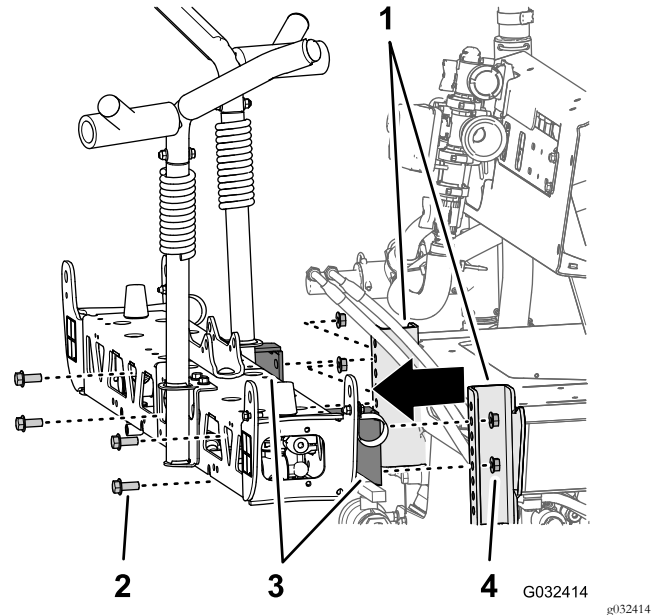

Figure 69
- Remove the 4 flange-head bolts (1/2 x 1-1/4 inches) and 4 flange locknuts (1/2 inch) that secure the support brackets of the center boom section to the mounting channel on the frame for the sprayer, and remove the center boom section from the machine (Figure 69).